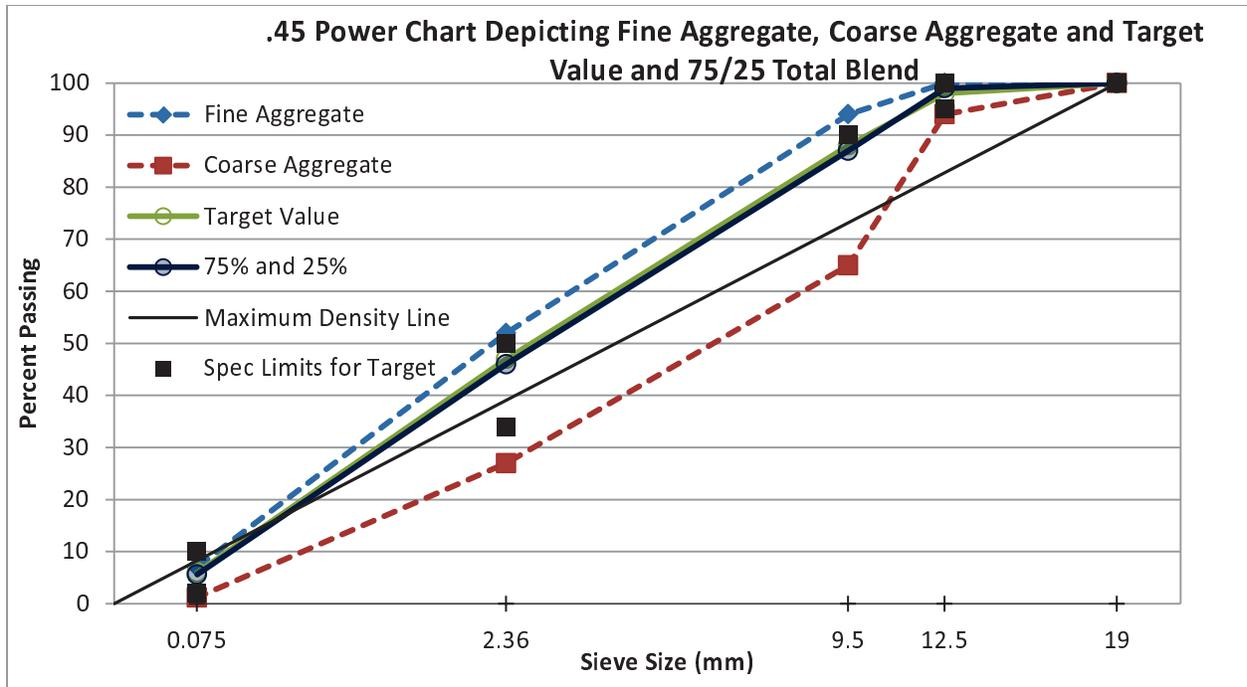

Figure 7-7: Data from Step 5.3 Plotted on the .45 Power Chart
5.3 Recalculate Blend (using Trial 5). The results are illustrated in the blending worksheet below and in Figure 7-7.
As shown in Figure 7-7, adjustments have moved the Total Blend to the Target Value. At this point, stockpile variability and plant precession need to be considered and accounted for in the amount of fine tuning to the percent of each aggregate used.